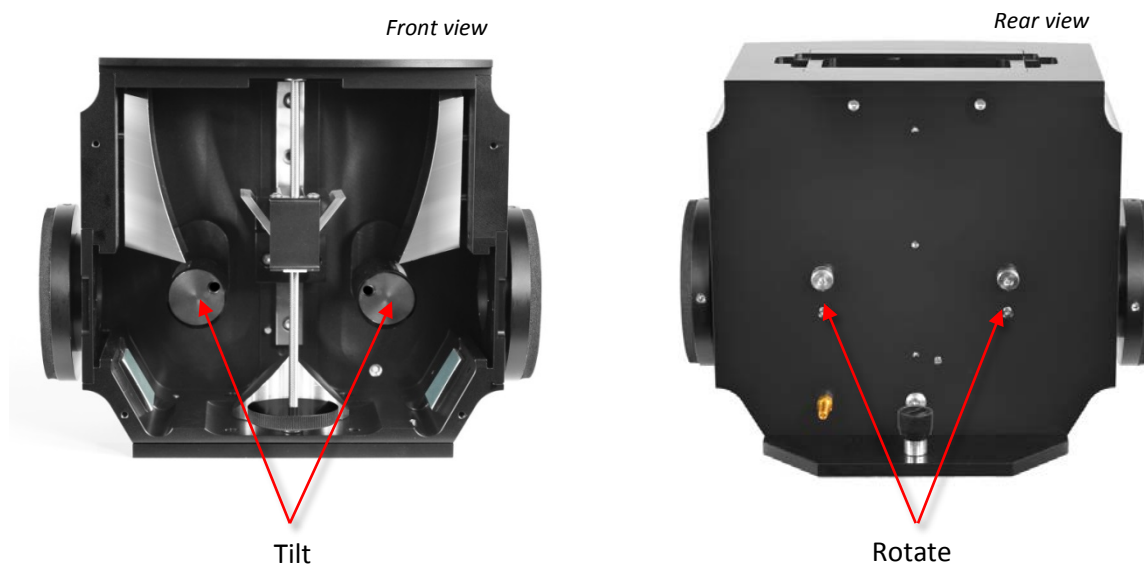

Figure 2. Location of alignment mirrors on the VeeMAX III
Once it has been aligned to your instrument, it will remain stable and usable without further adjustment. The input and output mirrors on the VeeMAX III are adjusted to maximize performance in your spectrometer – do not adjust any other mirrors within the accessory. Depending upon your FTIR spectrometer model and whether the IR beam travels from right to left or left to right within the sample compartment, the input mirror shown in Figure 2 may be the output mirror on your instrument.
3. Compare your accessory with Figure 2 on the previous page and locate the tilt and rotation adjustments. The tilt adjustment located on the front side needs a 3/32 hex wrench while the rotation adjustment located on the back side requires a 1/8 hex wrench.